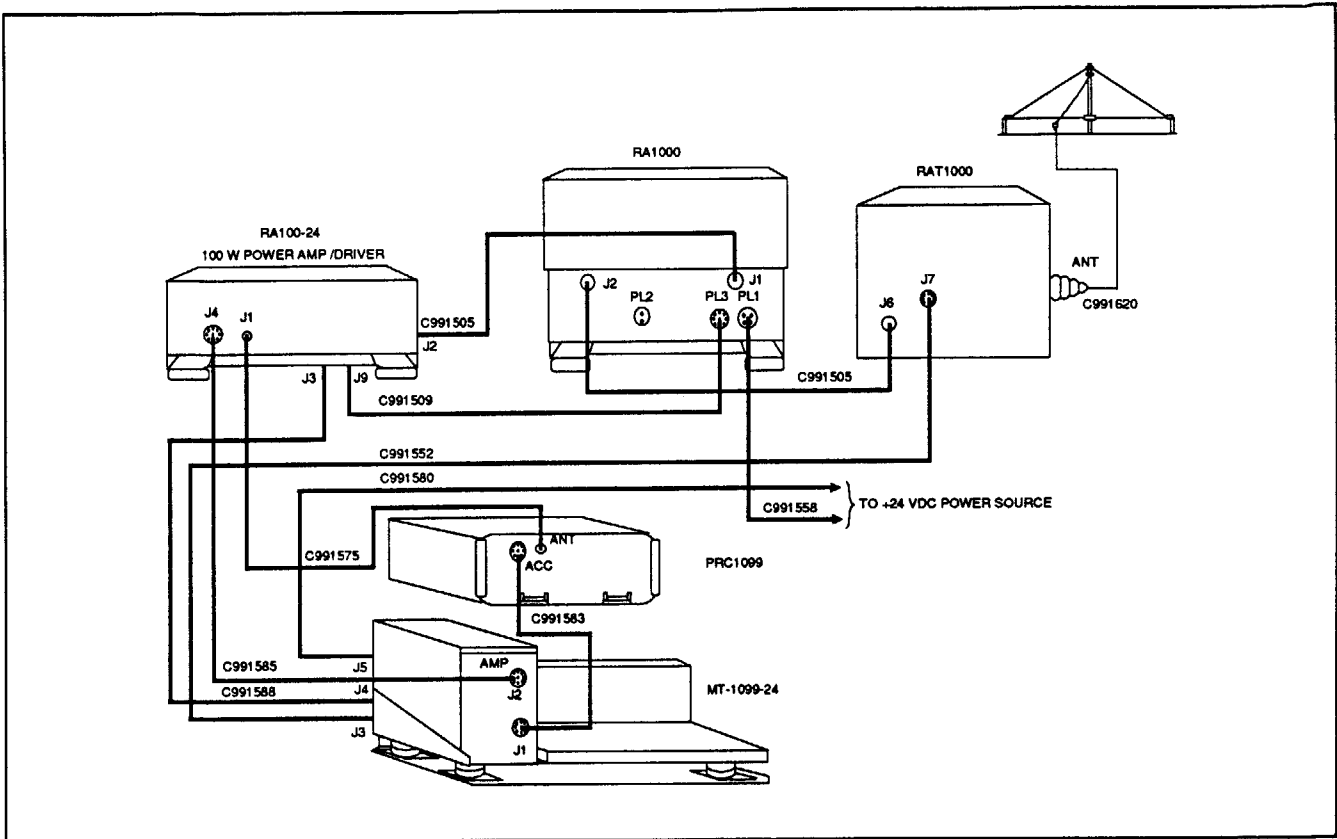

FIGURE B-11.
6. Hook up the correct cables as shown in Figure B-11.
- a. The PRC1099 can be used in a mobile configuration with the RA1000 power amplifier as shown in Figure B-11.
Referring to Figure B-11, cable C991580 going between the vehicular power source and the MT-1099 must be replaced with cable C991614; this cable connects the MT-1099 to the UPS100.
Also in Figure B-11, cable C991558 going between the vehicular power source and the RA1000 must be replaced with cable C991508; this cable connects the RA1000 to the UPS1000.